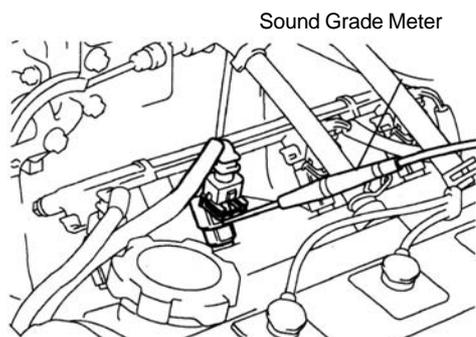

Figure 105
- (a) Warm up the engine for at least 2500rpm. Using sound grade meter, check injector's noise when running. See (Figure 105).